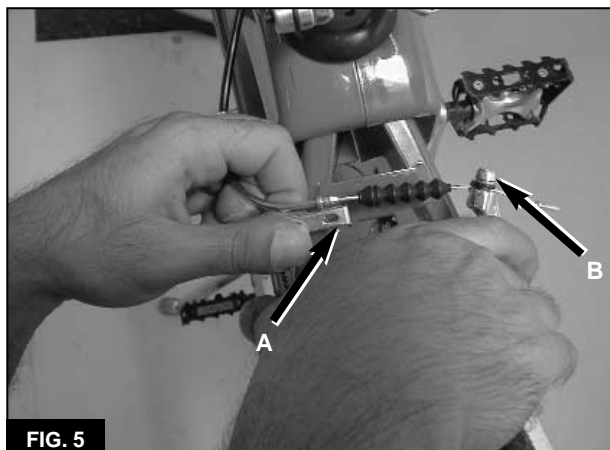

FIG. 5
- a. Squeeze the arms of the rear-brake caliper together, and disconnect the rear-brake cable guide from the bracket on the left caliper arm (A, **Figure 5**).
- b. Loosen the brake-cable pinch bolt (B, **Figure 5**), and release the inner cable end from the pinch mechanism.
- b. Tighten the brake-caliper pinch bolt (B, **Figure 5**) to the specification in Table 4.
- c. Squeeze the arms of the rear-brake caliper together, and connect the cable guide to the bracket on the left caliper arm (A, **Figure 5**).
2. Squeeze the top of rear brake arms together and free the rear brake cable from the bracket on the left arm (A, **Figure 5**).
10. Reconnect the rear brake cable to the bracket on the left caliper arm (A, **Figure 5**).